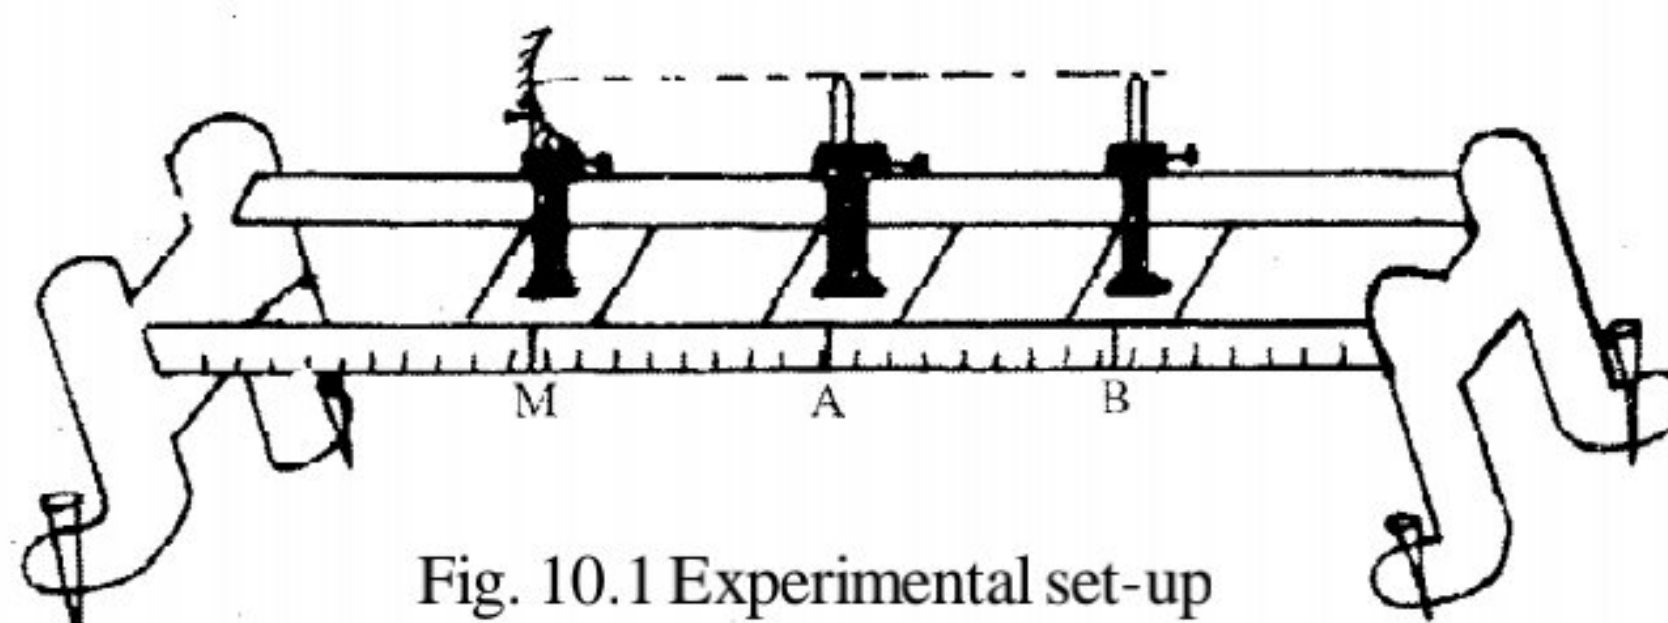

Fig. 10.1 Experimental set-up
- (iv) Fix the mirror in mirror-holder and adjust the tips of the pins so that they are in the same horizontal line as the pole of the mirror (See Fig. 10.1).